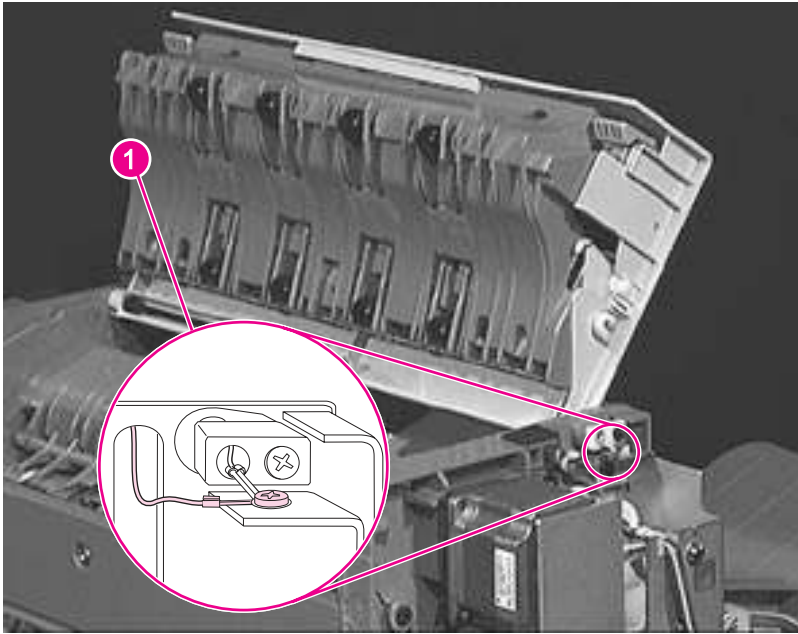

Figure 6-140 Face-up/Diverter Assembly (Flipper) (1 of 3)
- 3 Remove the grounding screw (callout 1) at the top back side (figure 6-140).